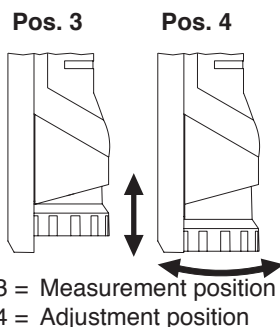

FIG. 6
The 3-roller-system for tension measurement relies on the displacement of the middle roller (measuring roller) to give an indication of the line tension. As the material thickness changes, there will be a change in the tension reading, even when the line tension has not changed. To compensate for this effect, high-range instruments are usually equipped, as necessary, with a material thickness compensator, which automatically shifts the outer rollers. To adapt the tension meter to the diameter of the material to be measured, push the thumbpiece into the adjustment position “0” (Section 4.0) and pull the thumbwheel of the material thickness compensator backward to the adjustment position (Figure 6). Turn it clockwise or anti-clockwise until the desired diameter, such as , appears in the upper right part of the display. Then push the thumbwheel of the material thickness compensator back to the measurement position (Figure 6). If you set a diameter that has not been calibrated for the selected material characteristic, the set diameter is displayed with a black background, e.g., the tension meter can be used anyhow, but please note, that depending on the material to be measured, slight deviations in the measured values might occur.
1. The thumbpiece must be in the adjustment position(4) (Fig. 6).